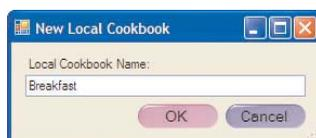

Figure 39: New Local Cookbook
2. Enter the new cookbook name (Figure 39).